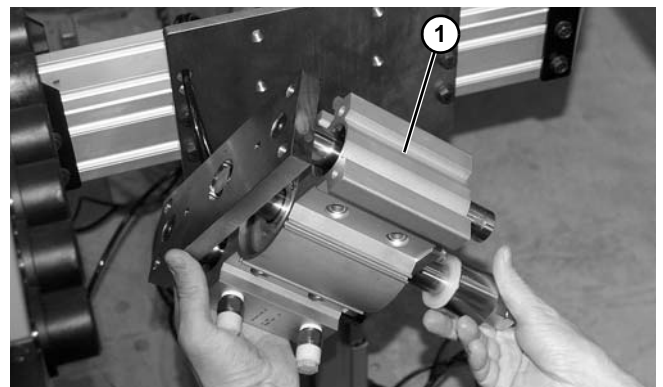

Figure 95
9. Remove cylinder (**Figure 95, item 1**) from conveyor frame.